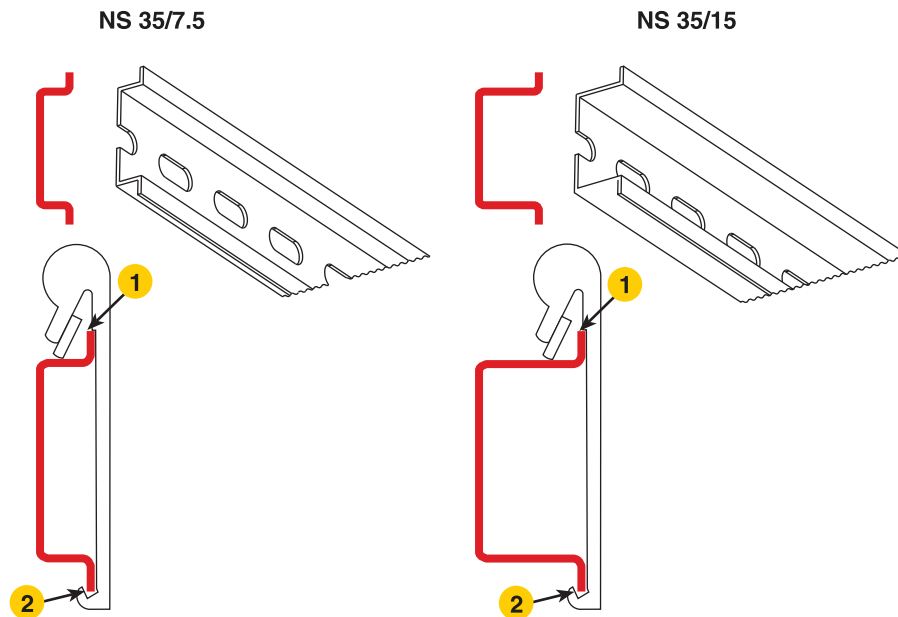

Figure 8. Installing the device onto the DIN rail
2. Install the device onto the DIN rail by inserting the upper DIN rail lip into the upper DIN rail clip slot (see callout 1 on figure 8 on page 23).
3. Rotate the device until the lower DIN rail lip snaps into the lower DIN rail clip slot (see callout 2 on figure 8).